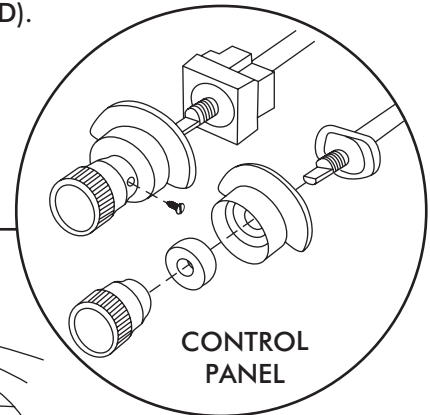

FIGURE 2a
- REMOVE OEM CENTER LOUVER ASSEMBLY WITH CONTROL, BEZEL (RETAIN) SEE FIGURE 2a. (REFER TO CONTROL PANEL INSTRUCTIONS FOR INSTALLATION)